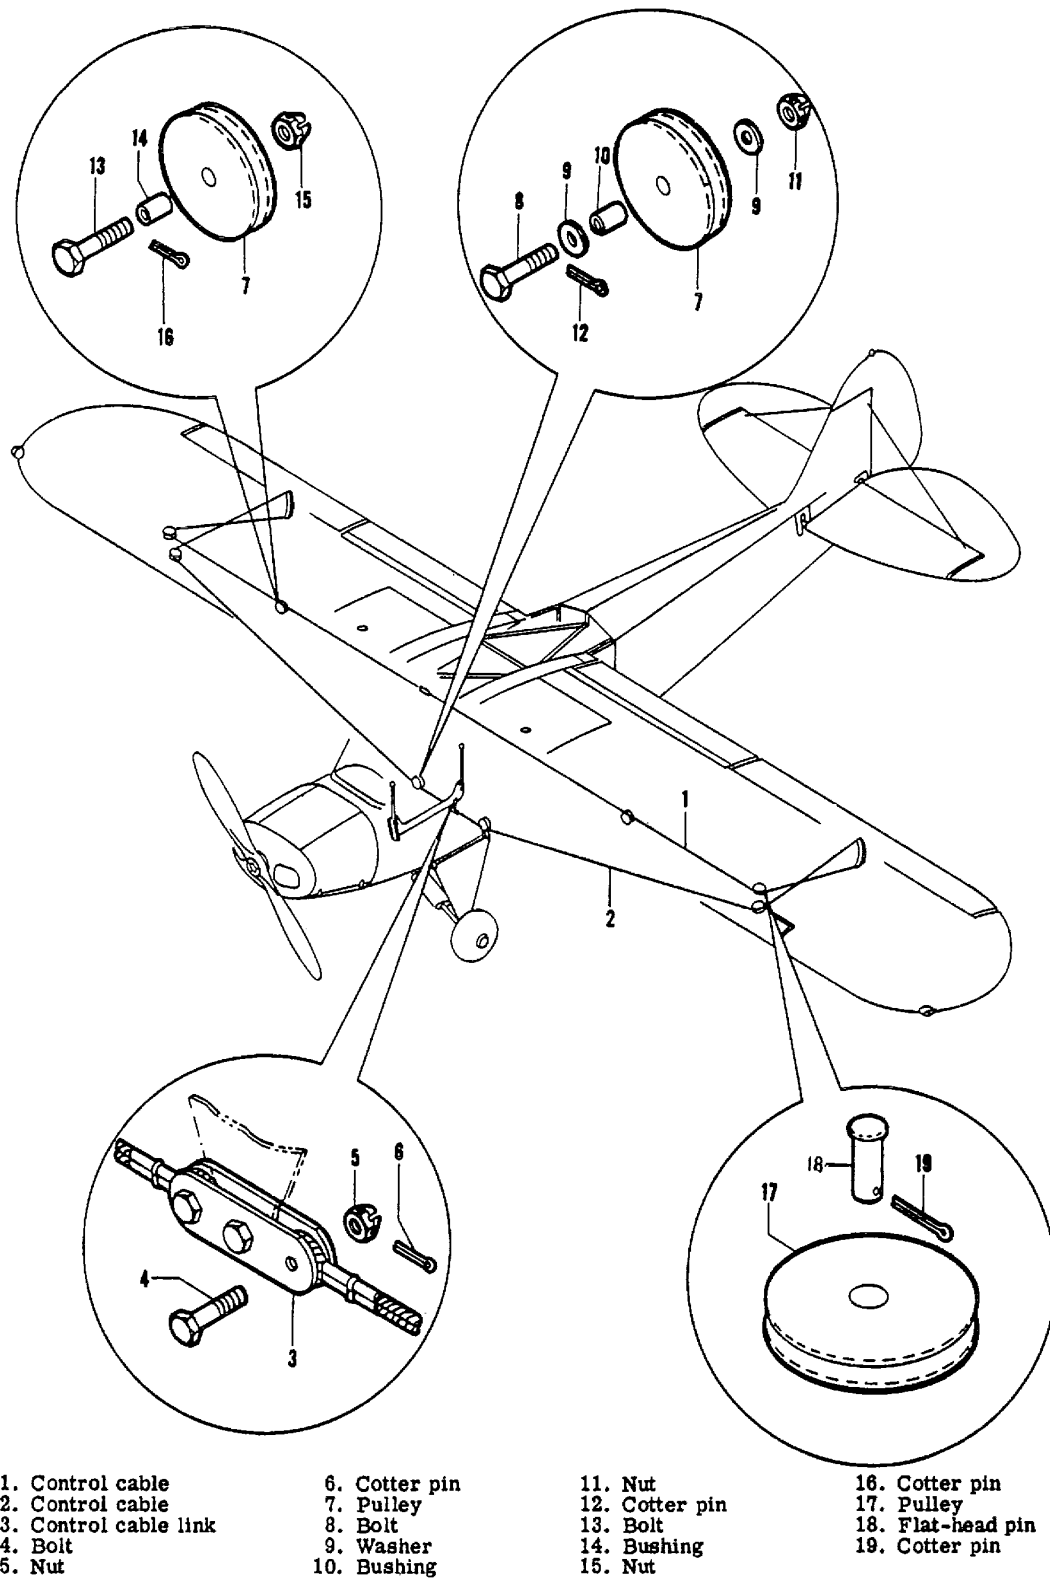

Figure 2-8. Aileron Control System
e. Connect the aileron control cables running to the lower aileron horns with link (36, figure 2-3). Thread aileron control cables running to the upper aileron horns through and out of the wing panels at the pulley housings on the upper wing surface. Position the cables on their pulleys (58, figure 2-3 and 17, figure 2-8) and mount the pulleys in their housings. Attach the cables to the upper aileron horns. Thread the same cables
around the pulleys that attach to the wing panels just above the points of attachment of the front lift struts to the underside of the wing panels. Mount these pulleys in their housings. Insert the cables running from the upper aileron horns down along the front lift struts in through the fuselage. Position the cables in their pulleys (7, figure 2-8) and mount these pulleys in their housings. Attach these cables to the link (3, figure 2-8) with bolt (4), nut (5), and cotter pin (6). Assemble the aileron pulley housing covers (54, figure 2-17) to the floorboards.
Broken pulley	Replace pulley (17, figure 2-8).
Pulleys bind	Replace damaged pulleys (17, figure 2-8).
- a. Disconnect aileron control cables (1 and 2, figure 2-8) from their attaching upper and lower aileron horns.
2-44. CLEANING OF CONTROL SURFACES. (See figure 2-3 and figures 2-8 through 2-16.)
2-46. MINOR REPAIR OF CONTROL SURFACES. (See figure 2-3 and figures 2-8 through 2-16.)